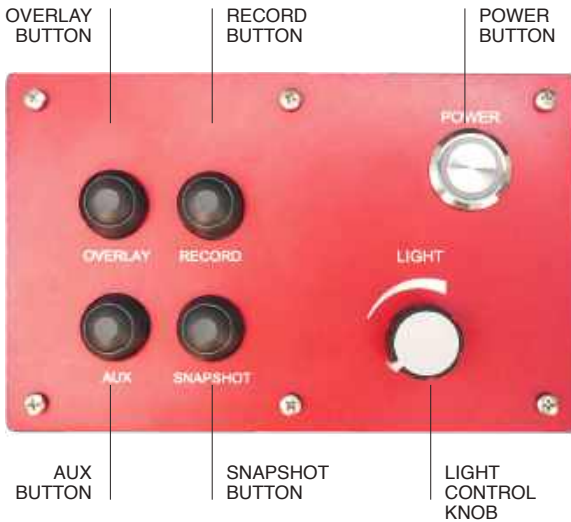

Fig 13
1. Turn the system on by pressing and holding the **POWER** button until it illuminates, usually about 4 seconds. (Fig 13)
6. Take a **snapshot** of the video feed of every camera by pressing the **SNAPSHOT** button on the controller top panel. (Fig 13)